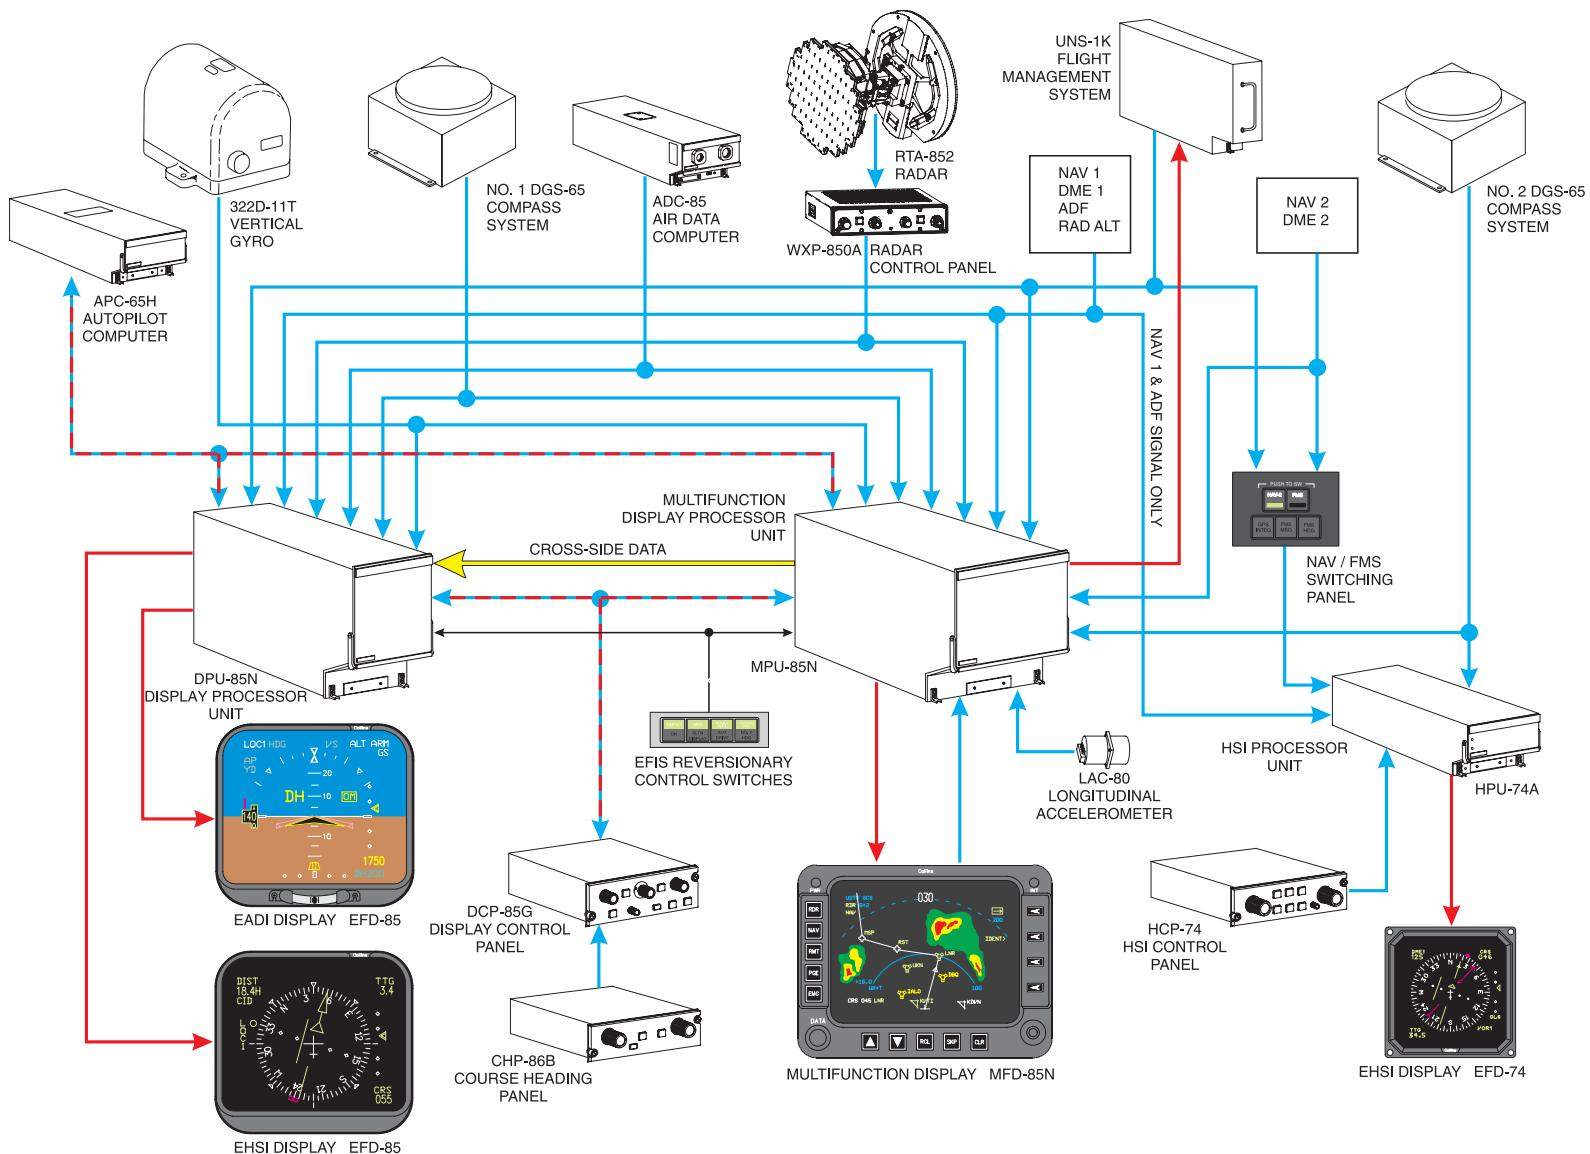

Figure 16-28 EFIS System EFIS-85B (14) and EHSI-74A
The B300 (350) aircraft can be equipped with a Collins EFIS-85B(14) (3-Tube) electronic flight instrument system (EFIS) for the pilot's display and a Collins EHSI-74A electronic horizontal situation indicator for the copilot's display. There are other EFIS configurations available, but this is the most common EFIS configuration found in these aircraft (Figure 16-28).